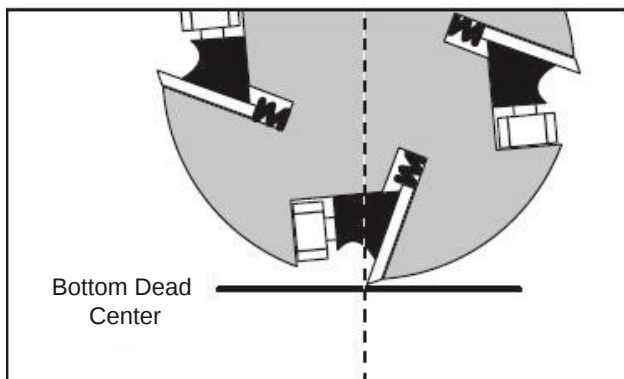

Figure 52. Cutterhead knife at bottom dead center (BDC).
4. Using the cutterhead pulley, rotate the cutterhead so that the blade on the left edge of the cutterhead is at bottom dead center (BDC) (see **Figure 52**)—this will also place the knife on the right side of the cutterhead at BDC.